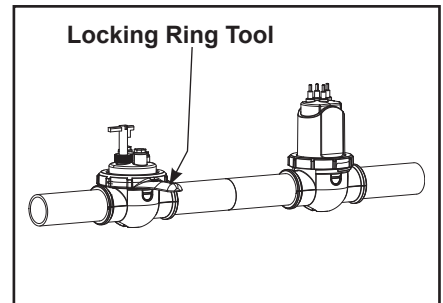

Figure 15. Locking Ring Tool
14. Screw down the locking ring to the threaded clamp using the locking ring tool (see Figure 15).